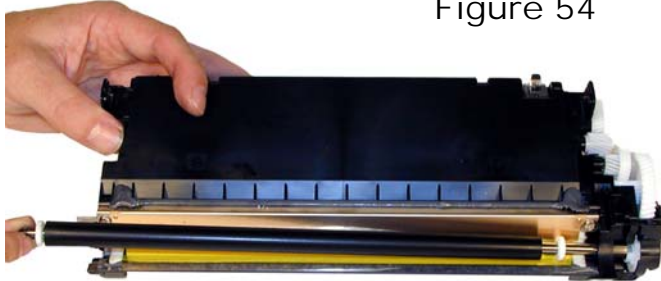

Figure 54
36) Wipe the developer roller down with a clean lint free cloth. We do not recommend that any chemicals be used at this time. Testing is still on going to see what if anything can be used. Install the cleaned developer roller in the hopper keyed end first. Spin it until it is fully seated in the drive gear. See **Figures 54 & 55**